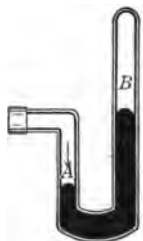

FIG. 64. — Closed manometer.
72. Measurement of Gas Pressure. The open mercury manometer and the spring gauge are both used to measure gas pressures. See § 30. The *closed mercury manometer* is also used. It is shorter than the open manometer and requires less mercury. When the mercury stands at the same level in both arms, the pressure is one atmosphere. See Fig. 64. When the pressure at *A* is increased mercury is forced into *B*, compressing the air in the closed end of the tube (Boyle's law). The scale may be calibrated to read atmospheres directly. Engineers speak of a "27-in. vacuum" or a "28-in. vacuum" in referring to reduced pressures. A "28-in. vacuum" means a pressure 28 in. less than one atmosphere, which is 30 inches.